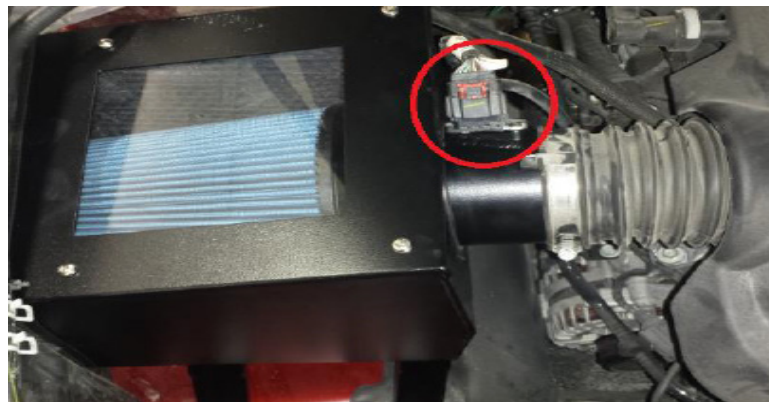

Figure 9
9. Remove MAF sensor from factory airbox cover and install into new MAF Tube. Plug in the MAF sensor. Kit installation should be complete as shown in Figure 9.